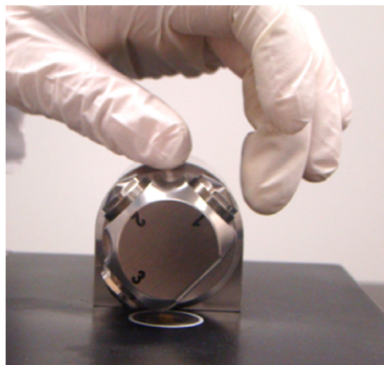

Figure 14. Rotating the DialPath
- 1 Open the DialPath by rotating the arm (see Figure 14).